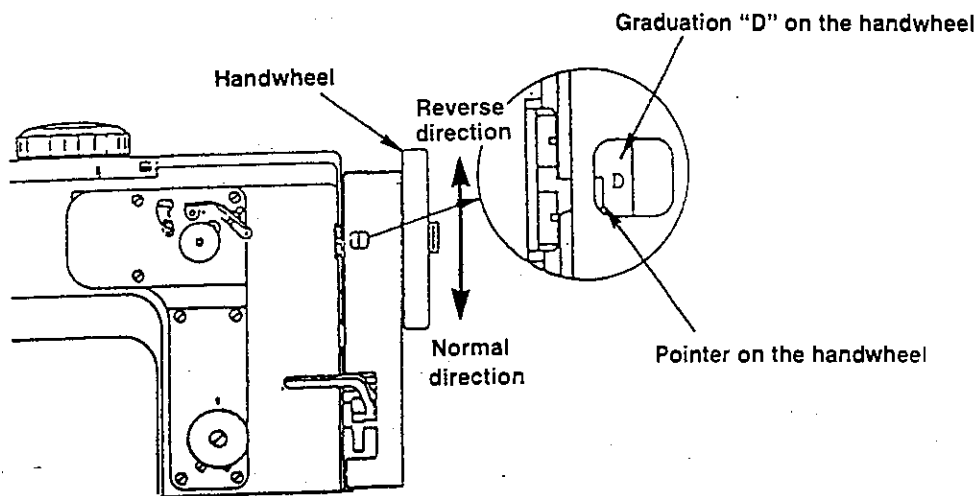

Fig. 3
<p>(1) Tilt the machine head, and make the head support bar hold the head at that position.</p> <p>(2) Move the moving knife forward by hand until it will go no further. (Fig. 1) (While turning the handwheel by hand, draw the moving knife forward from its initial position and the moving knife will move.)</p> <p>(3) Put a thread (tetron #8) on to the thread eyelet of the moving knife. (The thread should be held slackened until the machine completes thread trimming.)</p> <p>(4) Turn the handwheel slowly by hand in the normal direction of rotation. (Fig. 3)</p> <p>(5) The moving knife engages with the counter knife, and the knives trim the thread. Now, stop turning the handwheel.</p> <p>(6) Turn the handwheel from the position described in step (5) slightly in the reverse direction of rotation. Turn it to the extent where the thread trimmer cam does not come in contact with the thread cam roller. (Fig. 2)</p> <p>(7) Loosen screw ② in the thread trimmer cam. (Fig. 2)</p> <p>(8) Securing the thread trimmer cam by hand so that it does not come in contact with the moving knife driving arm A, turn the handwheel until the graduation "D" on the handwheel meets the handwheel pointer. (Fig. 2)</p> <p>(9) In the state described in step (7), turn the thread trimmer cam until it slightly comes in contact with the cam roller of moving knife driving arm A. (Fig. 2)</p> <p>(10) Tighten screw ② in the thread trimmer cam. (Fig. 2)</p> <p>(11) Check that the timing of thread trimming action has been properly adjusted. Repeat the steps (3) and (4), and make the sewing machine perform thread trimming. Now, check that the graduation "D" on the handwheel meets the handwheel pointer since they meet with each other if the timing of thread trimming action has been properly adjusted.</p>	<p>☆ If the timing of thread trimming is too early :</p> <ul style="list-style-type: none"> • The length of thread remaining at the needle after thread trimming will be insufficient. As a result, the thread may slip off the needle eyelet at the sewing start or after thread trimming. • Stitch skipping may occur at the start of sewing. <p>☆ If the timing of thread trimming is too late :</p> <ul style="list-style-type: none"> • Thread trimming failure may result. <p>8' Refer to "(1) Kinds and names of graduations on the handwheel" on page 5.</p>